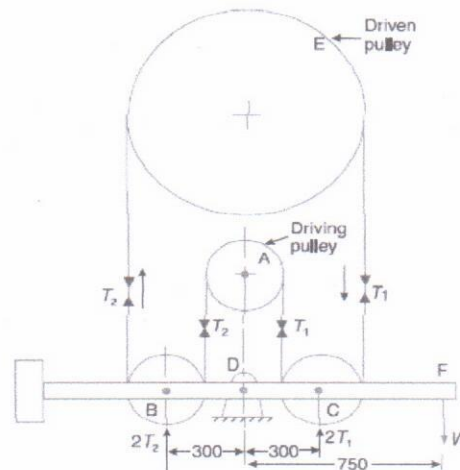

Fig. 19.35. All dimensions in mm.
8. The essential features of a transmission dynamometer are shown in Fig. 19.35. A is the driving pulley which runs at 600 r.p.m. B and C are jockey pulleys mounted on a horizontal beam pivoted at D, about which point the complete beam is balanced when at rest. E is the driven pulley and all portions of the belt between the pulleys are vertical. A, B and C are each 300 mm diameter and the thickness and weight of the belt are neglected. The length DF is 750 mm. Find : 1. the value of the weight W to maintain the beam in a horizontal position when 4.5 kW is being transmitted, and 2. the value of W, when the belt just begins to slip on pulley A. The coefficient of friction being 0.2 and maximum tension in the belt 1.5 kN.